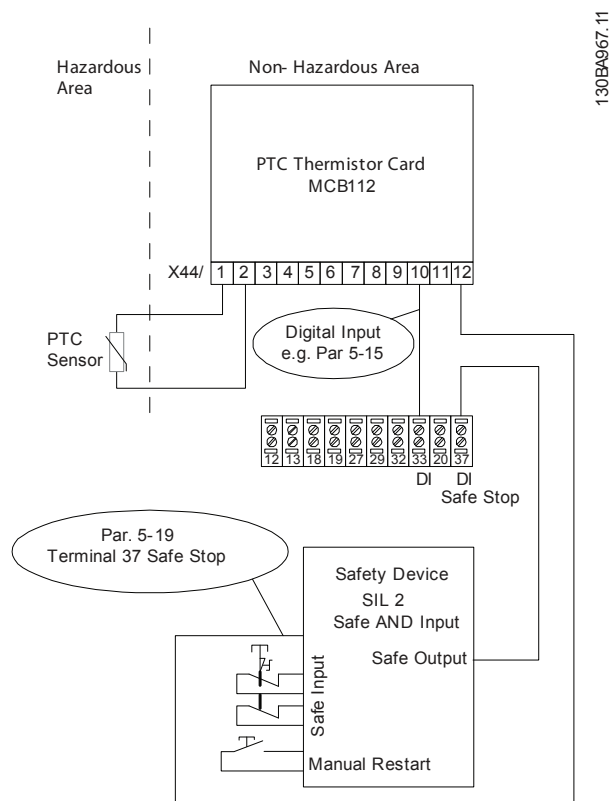

Figure 3.3 Combination of an STO Application and an MCB 112 Application
- Short circuit protect the connection from the output of the safety device with safe AND-logic to the STO terminal 37, see *Figure 3.3*.
Figure 3.3 shows a Restart input for the external safety device. This means that in this installation, 5-19 Terminal 37 Digital Input can be set to value [7] PTC 1 & Relay W or [8] PTC 1 & Relay A/W. Refer to VLT® PTC Thermistor Card MCB 112 Instruction Manual for further details.